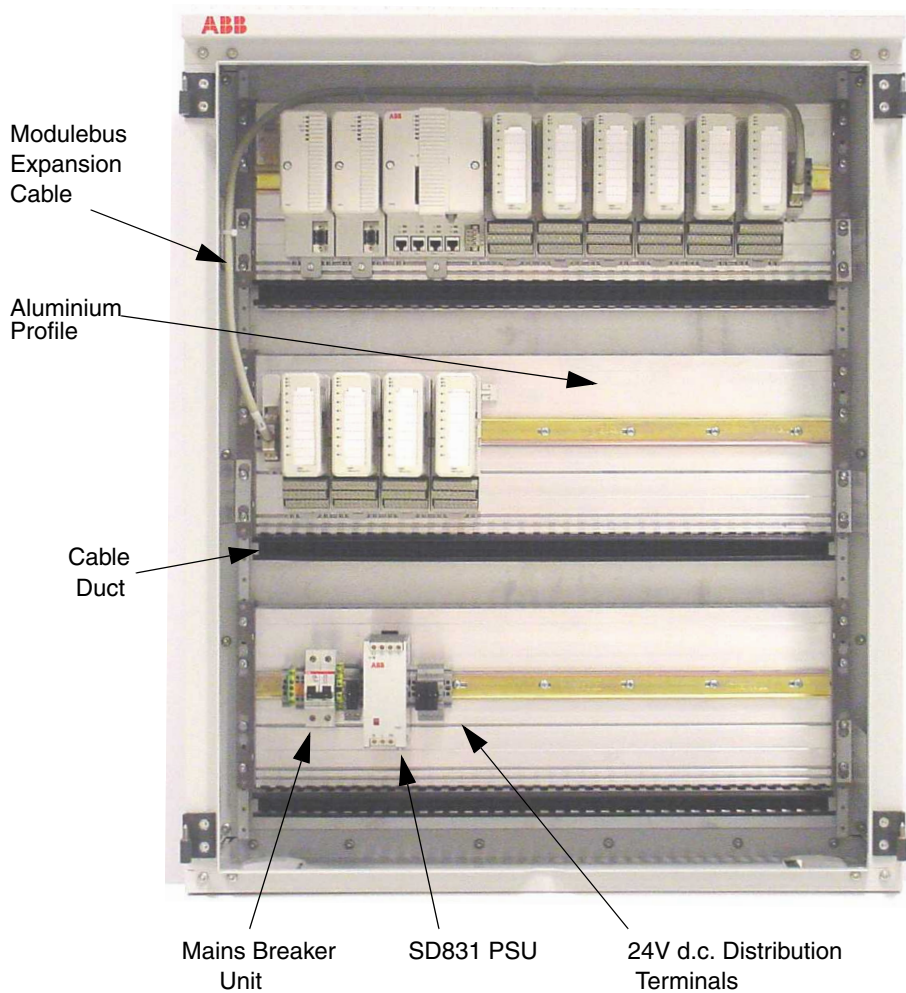

Figure 49. Wall Cabinet - Single Power Supply Arrangement
- Figure 49 on page 114, Wall Cabinet - Single Power Supply Arrangement